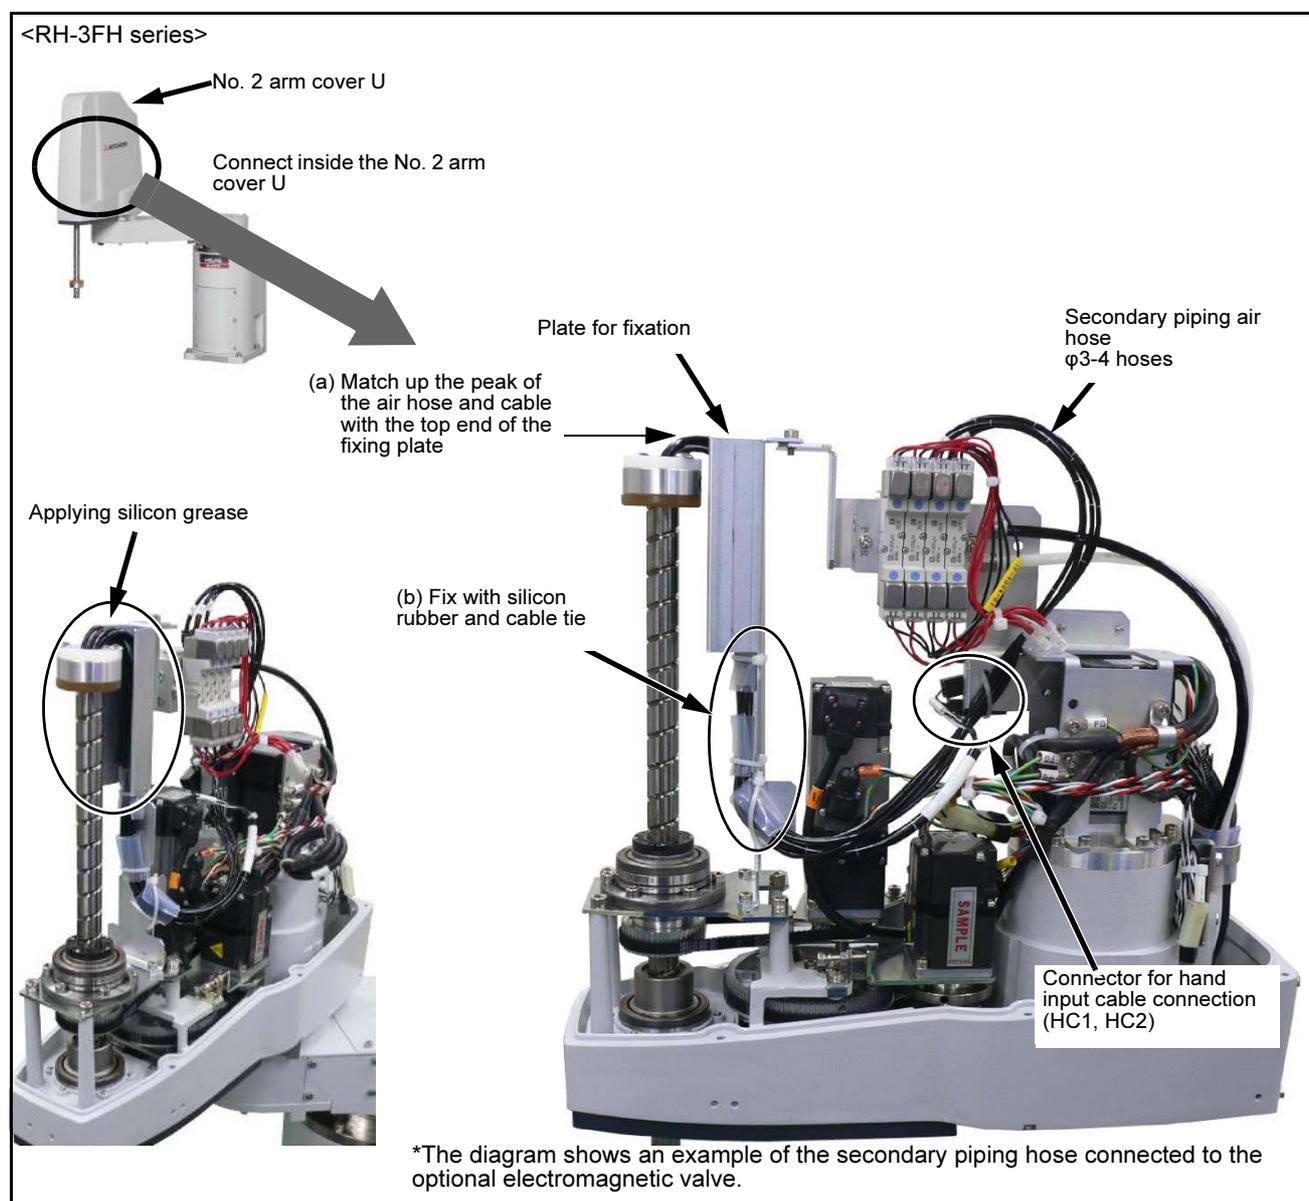
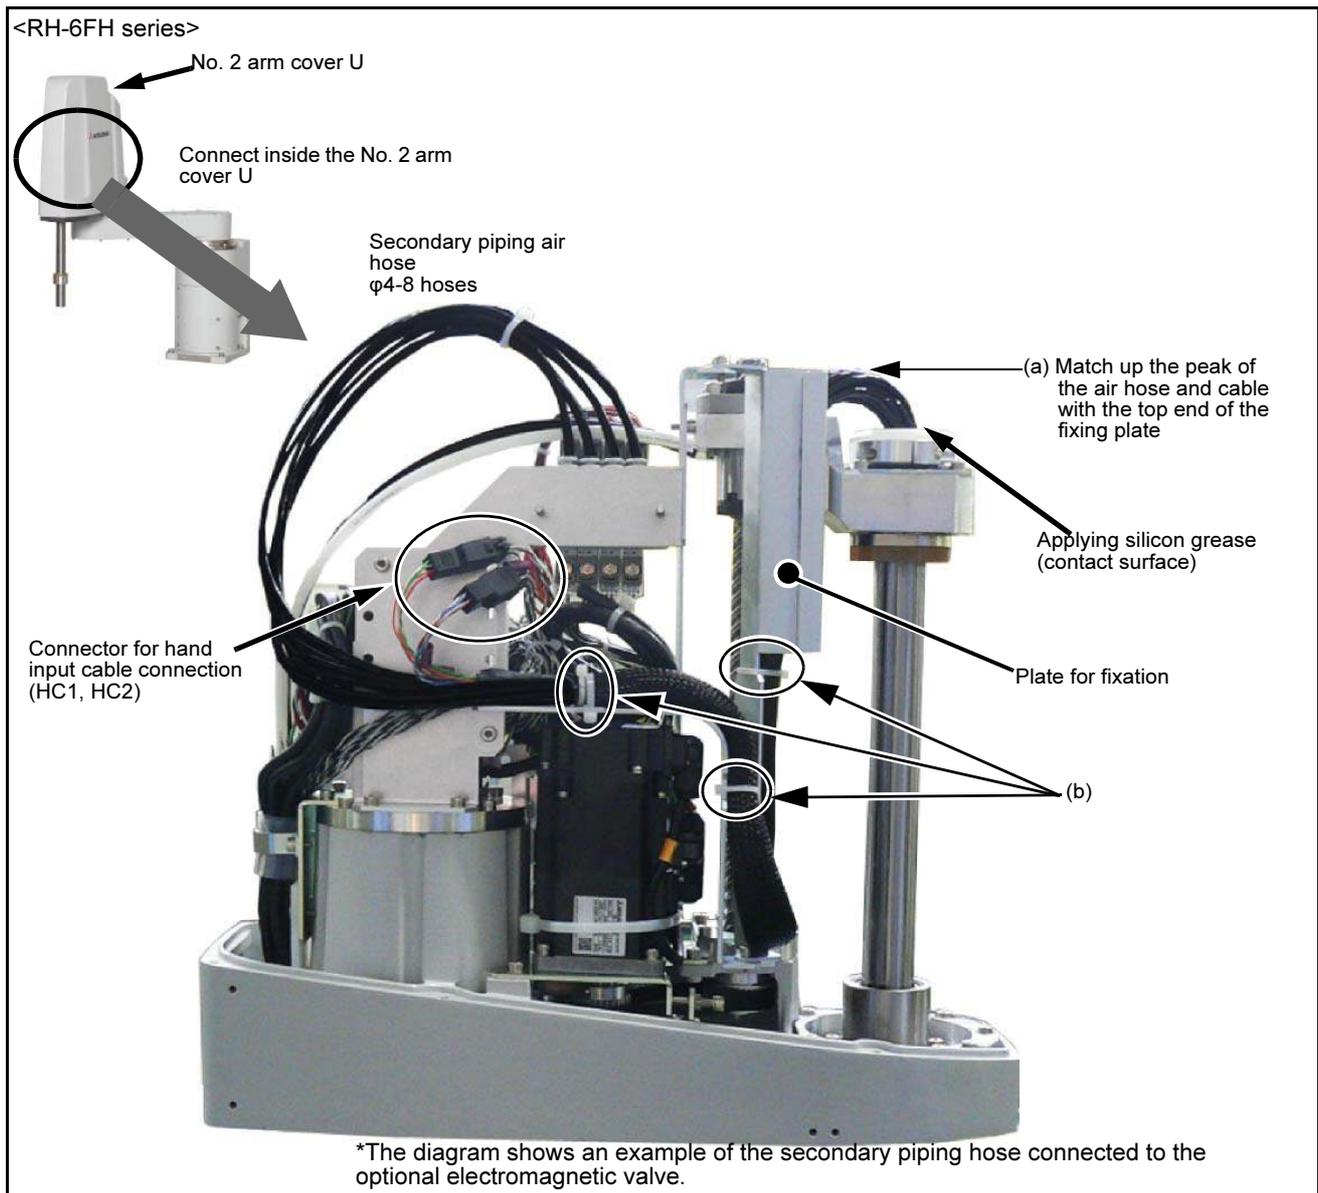

Fig.3-5 : Installing the hand internal wiring and piping set (RH-3FH)
Fig.3-6 : Installing the hand internal wiring and piping set (RH-6FH)
The installation procedure for the hand internal wiring and piping set is shown in Fig. 3-5 for the RH-3FH series, and in Fig. 3-6 for the RH-6FH series, and in Fig. 3-6 for the RH-12FH/20FH series. Remove the No. 2 arm cover U and fix this option to the plate above the No. 2 arm.
- 5) Silicone rubbers are installed in this option. As shown in the Fig. 3-5 (RH-3FH) or Fig. 3-6 (RH-6FH), fixes this option to the metal plate of the robot arm in the three positions of silicone rubber by the attached cable tie. (the three places shown by (b) of the Fig. 3-5 (RH-3FH) or Fig. 3-6 (RH-6FH)).
- 5) As shown in Fig. 3-6, fix to the metal plate by the attached cable tie.